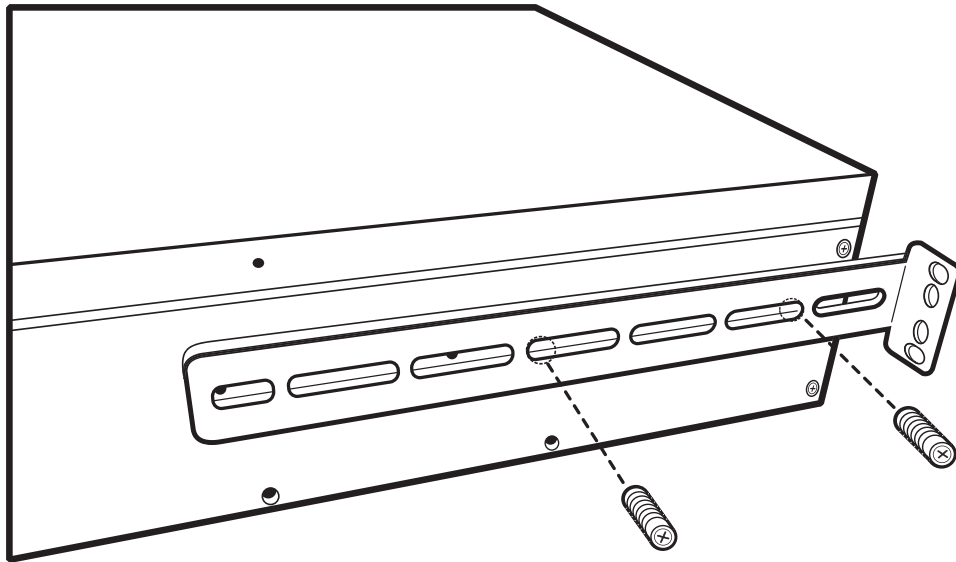

Figure 2.7 Attaching the Rear Brackets to the TMG7800-CTRL
1. Install the fixed brackets on the TMG7800-CTRL, adjusting their position in accordance with the equipment rack depth. See figure 2.7 on page 16.